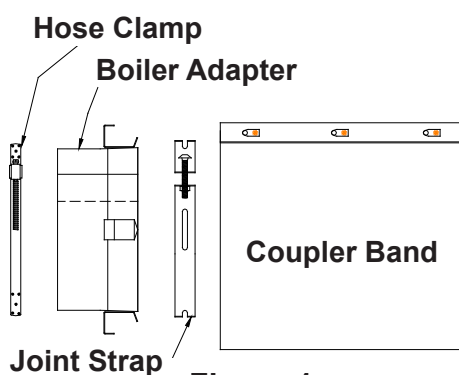
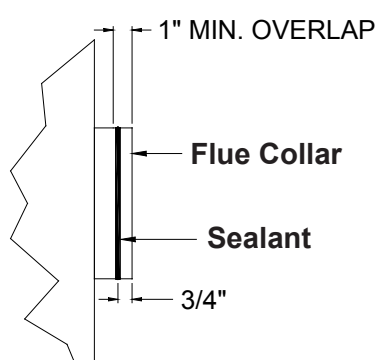
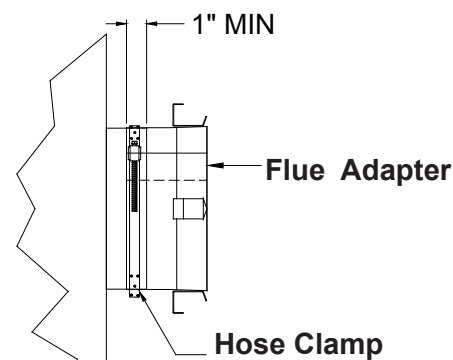

Figure 1
Figure 2
Figure 3
1. Remove the clamps and coupler band from the adapter, *figure 1*. The adapter must clamp onto the flue collar with no less than 1 inch overlap for proper fit. Mark or scribe flue collar prior to fitting the adapter, *figure 2*.
2. All joint surfaces **must** be cleaned with alcohol wipes before applying sealant. Apply 1/4" thick bead of sealant around the outside of flue collar approximately 3/4" from the edge, *figure 2*. Place the adapter over boiler collar lining up the edge of the adapter to the scribe marks, then tighten the hose clamp snugly, *figure 3*. On horizontal flue collars, the split side of the boiler adapter should be installed along the top of the flue collar.